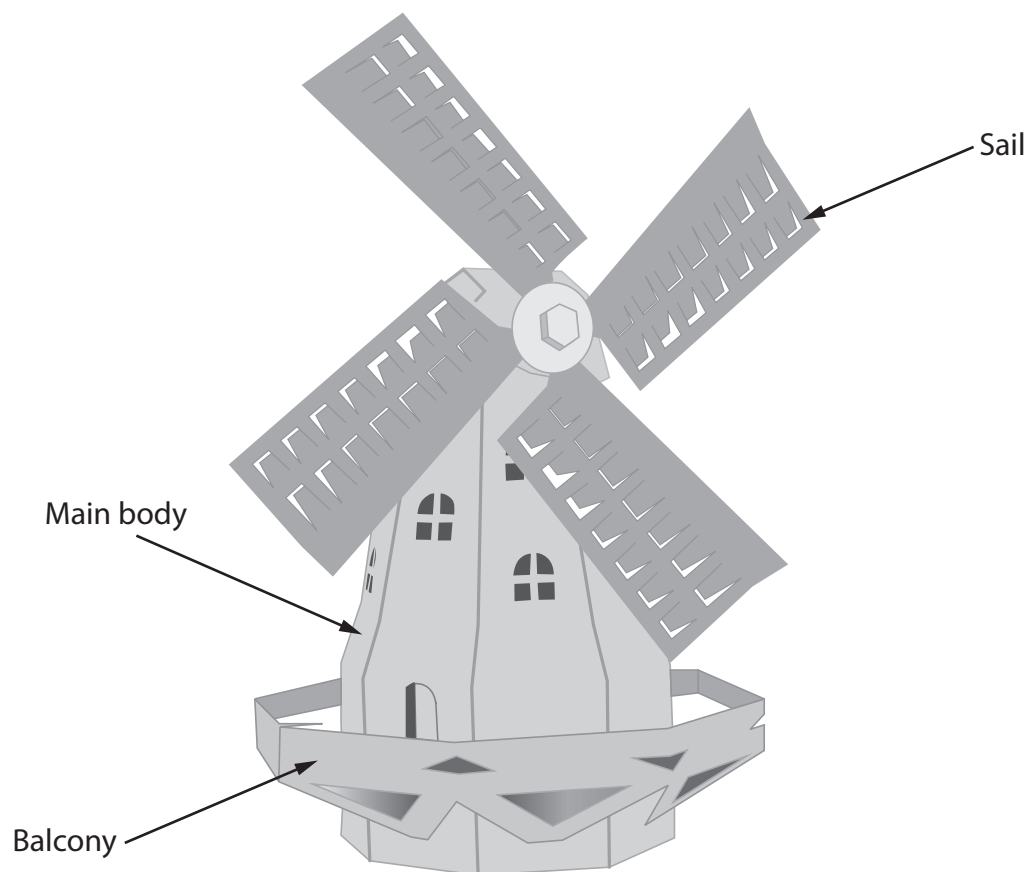

Figure 11
- 6 Figure 11 shows a model of a windmill made from boards that are sustainable.